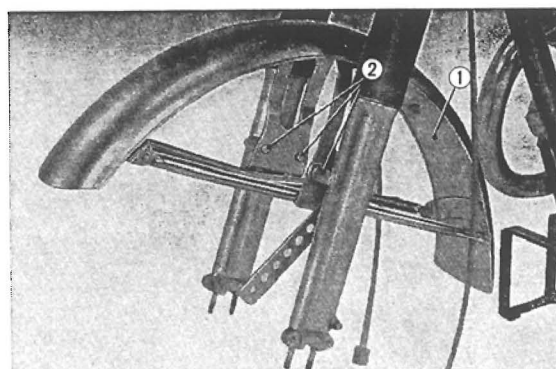

Fig. 4.17 Removing the front fender
2. Remove the 6 mm fender stay mounting bolt from both sides, 8 mm fender mounting bolt and the front brake stopper arm bolt. The fender can be separated from the fork. (Fig. 4.17)